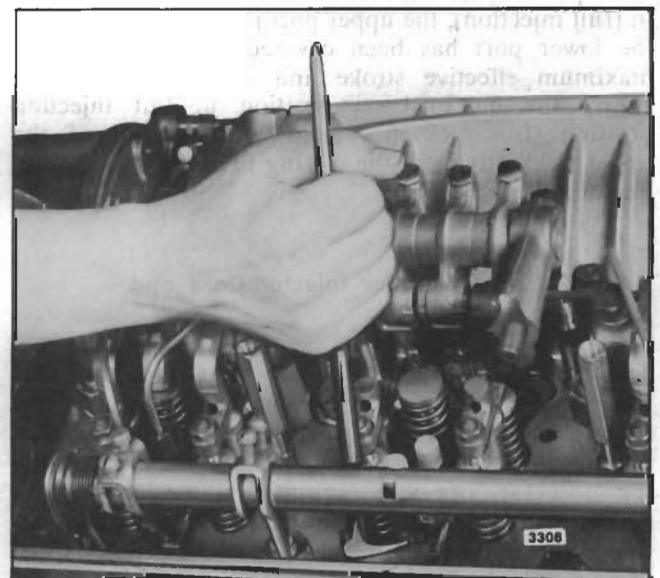

Fig. 7 - Removing Injector from Cylinder Head
4. Remove the two rocker shaft bracket bolts and swing the rocker arms away from the injector and valves (Fig. 7).